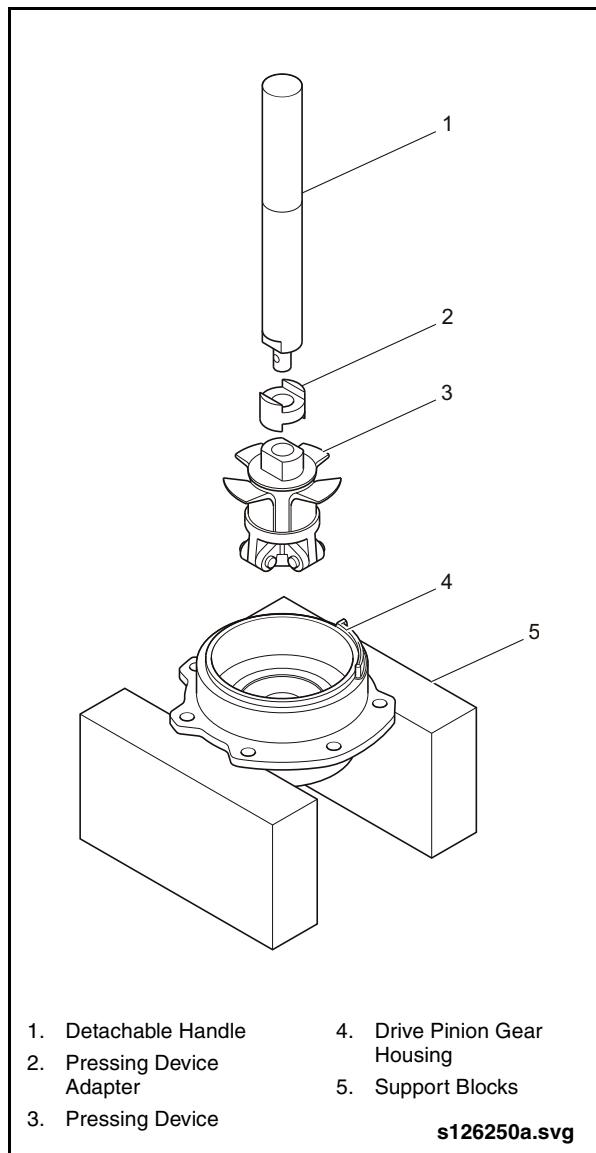

Fig. 2-93: Removing Outer Bearing Outer Race
1. Position the drive pinion gear housing on support blocks with the input end facing down. See "Fig. 2-93: Removing Outer Bearing Outer Race" on page 76.